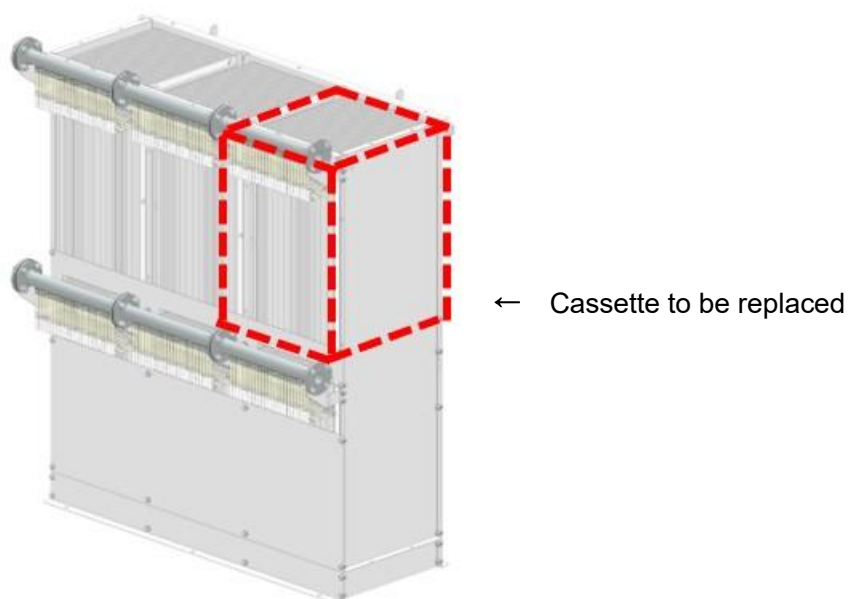

Figure IX-1
- The procedure of replacing a cassette is slightly different depending on its position in an element block. In this section, the procedure of replacing a cassette at the upper stack in Figure IX-1 since replacing the cassette at the upper stack requires more works.
- When replacing a cassette at the lower stack, skip the steps (9) to (14) below. Also, the sentence described about the upper stack should be read as about the lower stack.